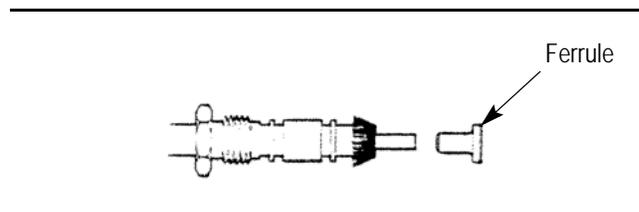

Figure 5
4. Push the ferrule over the dielectric to trap braid between outer sheath and ferrule. See Figure 5.